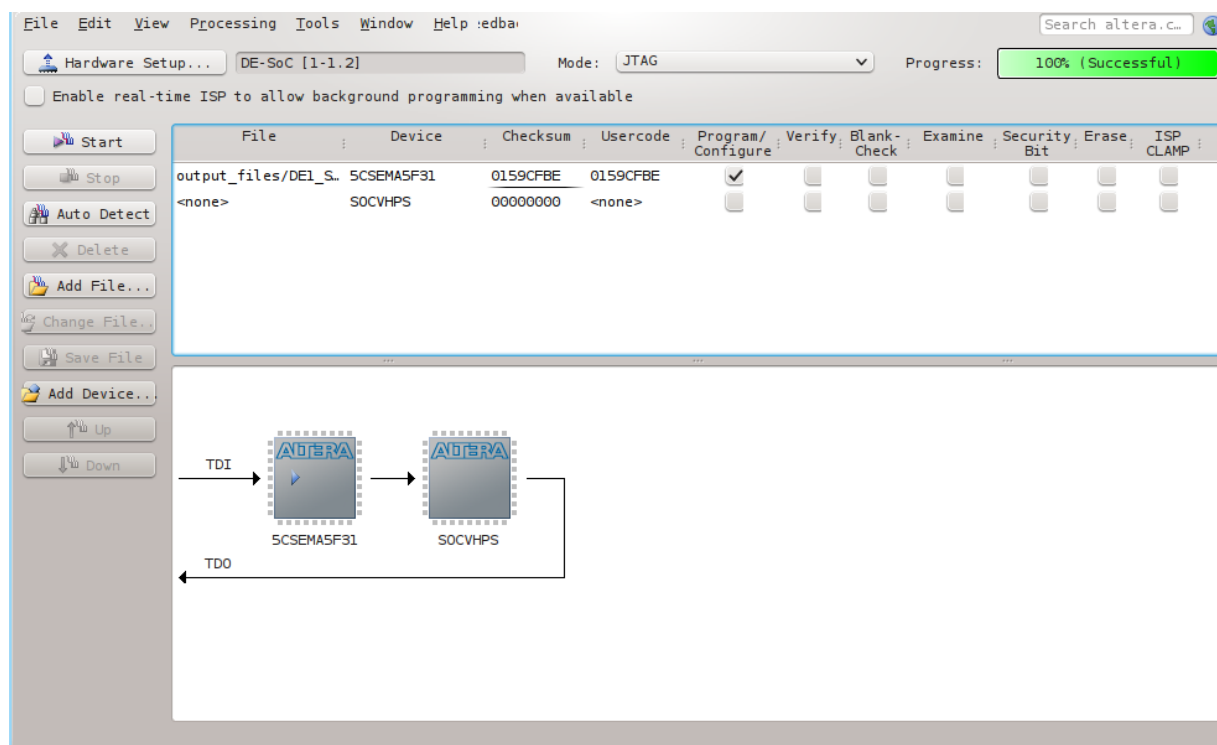

Figure 8-18. Programming the FPGA
40. Enable the “Program/Configure” checkbox for device “5CSEMA5F31”, then press the “Start” button, as shown in Figure 8-18.